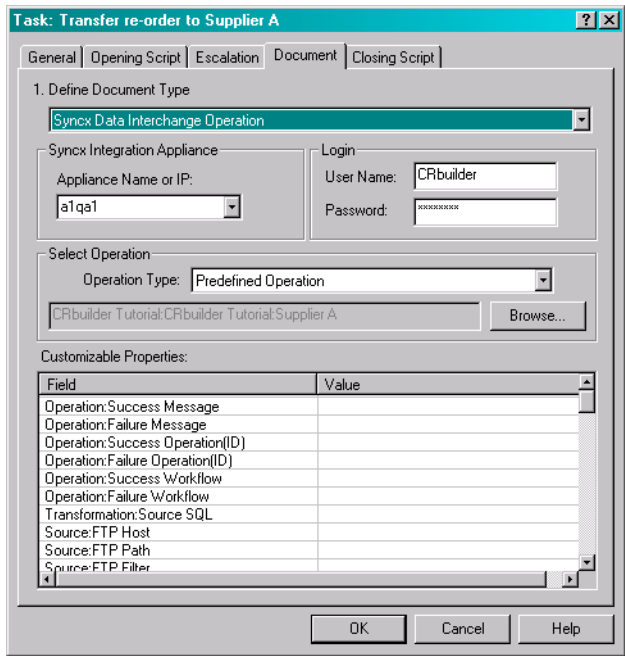

Figure 28-38. The task’s document tab with an associated operation.
- 7 Click **OK**. Supplier A is now linked to this task. Compare your work to, Figure 28-38, below